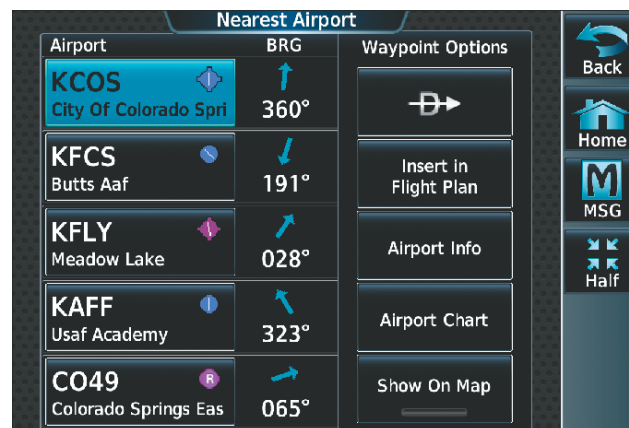

Figure 8-9 Airport Diagram Selection
- 2) Touch the desired airport button. KCOS is selected in this example. The **Waypoint Options** buttons are displayed as shown in Figure 8-9.